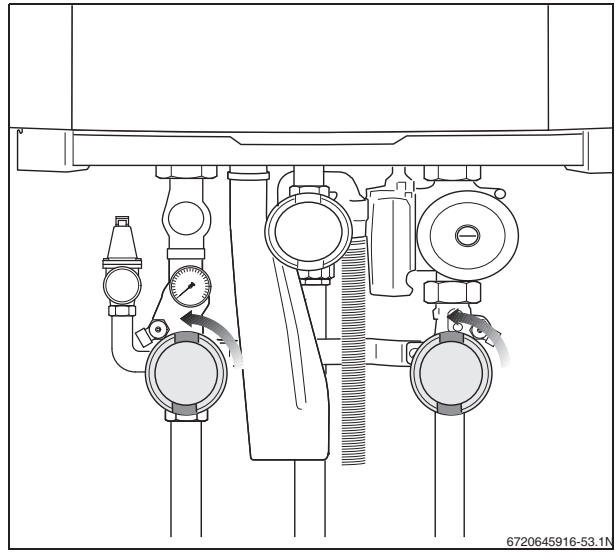

Fig. 53 Opening the isolating valves (here: open position)
- Open the heating supply and return isolating valves on the pump group (fig. 53). The open position is parallel to the pipe.